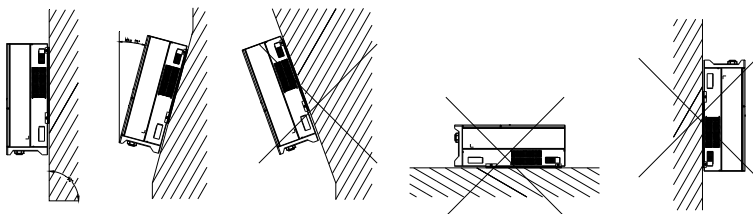

Figure 4.1 Mounting Method
Please mount the inverter correctly as shown in Figure4.1 below.
- ① The equipment employs natural convection cooling, and it can be installed indoor or outdoor.
- ② Please install the equipment under the guidance of Figure4.1. Vertical installation on floor level is recommended. Mount vertically or tilted backwards by max. 15°. Never install the inverter tilted forward, sideways, horizontally or upside down.
- ③ Install the inverter at eye level for convenience when checking the LCD display and possible maintenance activities.
- ④ When mounting the inverter, please consider that disassembly for service work may be required.